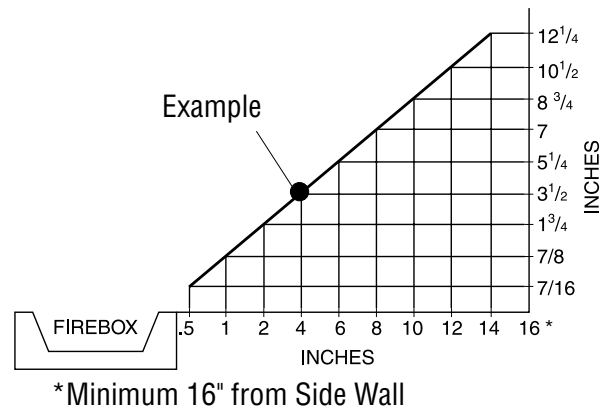

Figure 5 - Minimum Clearance for Combustible to Wall
Minimum Wall and Ceiling Clearances (see *Figure 5*)
- A. Clearances from the side of fireplace cabinet to any combustible material and wall should follow diagram in *Figure 5*.
Example: The face of a mantel, bookshelf, etc. is made of combustible material and protrudes 3-1/2" from the wall. This combustible material must be 4" from the side of the fireplace cabinet (see *Figure 5*).